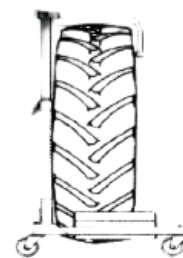

fig.2
5. Lower the clamp support arm (fig. 1.5) behind the wheel (fig.2) and adjust until the wheel is vertical and can be moved approximately 5 cm from side to side to allow the wheel to be rotated on the roller table for locating the wheel studs.